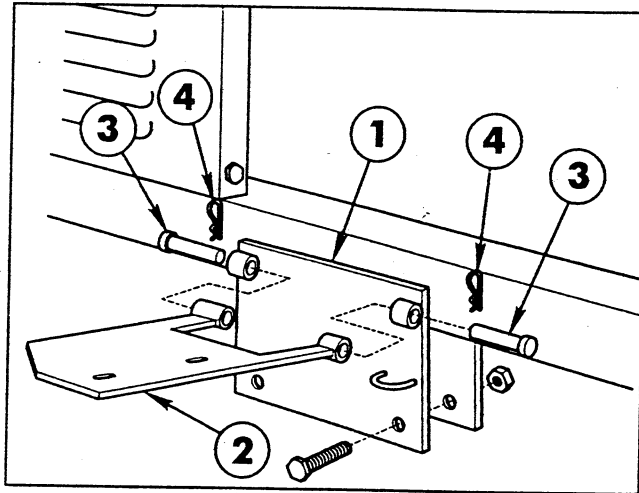

FIG. 12
1. Mount the Pivot Mounting Plate to the angle on the bottom of the Vehicle Frame, using two 1/2" x 1-1/4" cap screws and lock nuts. See FIG. 12.
2. Align the pivot tubes on the Pump Pivot Plate with those on the Pivot Mounting Plate. Insert the two (2) clevis pins and secure with two (2) hairpin cotters.